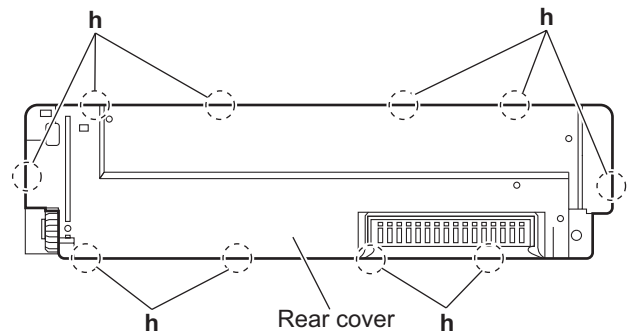

Fig.11
- (2) Release the ten joints **h** and take out the rear cover. (See Fig.11)